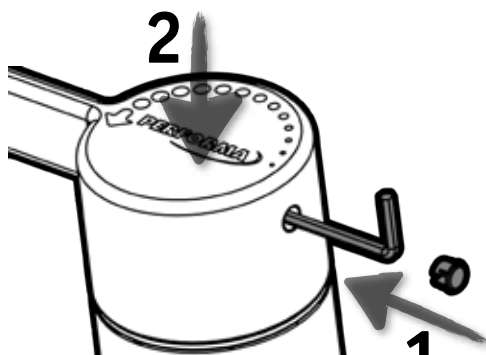

Fig. 16
10) Re-align the HANDLE 1 by removing and replacing to make it parallel to the wall and refit HANDLE SCREW 9 and PLASTIC CAP 8 (if applicable) (Fig. 16)